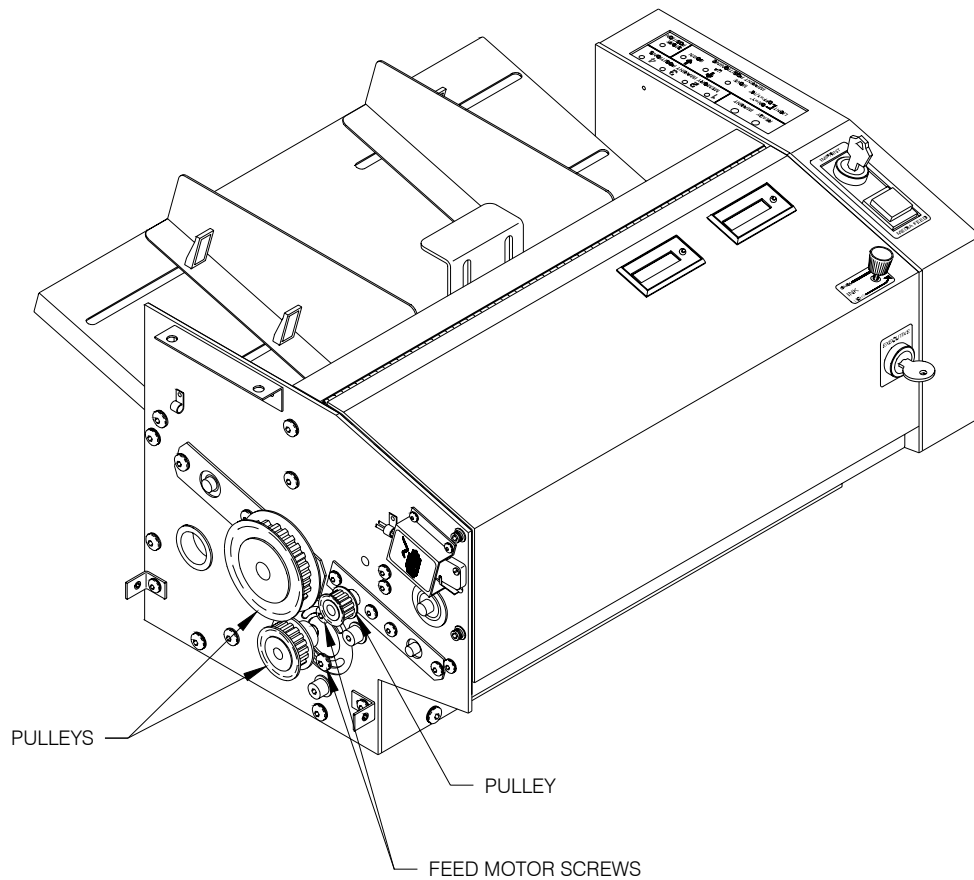

Figure 7.6 -- Adjusting Belt Tension
2. Loosen the 2 SCREWS in the FEED MOTOR and rotate the FEED MOTOR counterclockwise to loosen the tension on the FEED TIMING BELT. (Refer to **Figure 7.6.**)
4. Loosen the SET SCREW on each PULLEY and remove these 3 PULLEYS. (Refer to **Figure 7.6.**)
11. Place the 3 PULLEYS on the shafts and fasten the SET SCREWS to the flat on the shafts. (Refer to **Figure 7.6**)
14. Place the 3 PULLEYS on the shafts and fasten the SET SCREWS to the flat on the shafts. (Refer to **Figure 7.6.**)
16. Tighten the 2 SCREWS in the FEED MOTOR. (Refer to **Figure 7.6.**)
3. Loosen the 2 SCREWS in the FEED MOTOR and rotate the FEED MOTOR counterclockwise to loosen the tension on the FEED TIMING BELT. (Refer to **Figure 7.6.**)
5. Place the new FEED TIMING BELT around the 3 PULLEYS on the SIDE FRAME on the non-operator side. (Refer to **Figure 7.6.**)
7. Tighten the SCREWS in the FEED MOTOR. (Refer to **Figure 7.6.**)